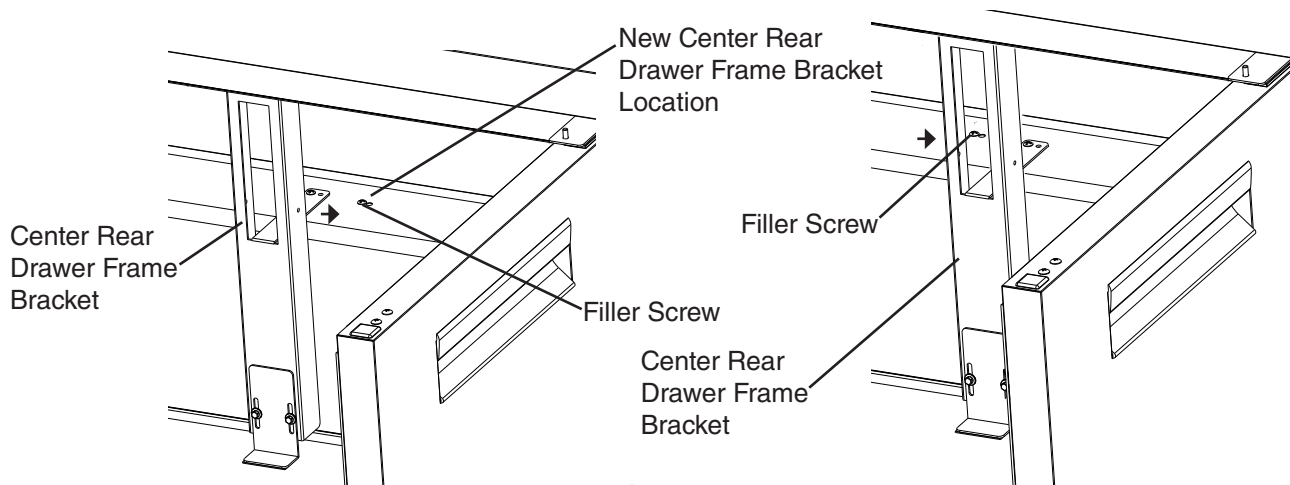

**Fig. 24**
6) Remove the center rear drawer frame bracket and the filler screw. See Fig. 24. Slide the center rear drawer frame bracket over to the new location and secure it. Place the filler screw in the former center rear drawer frame bracket hole.